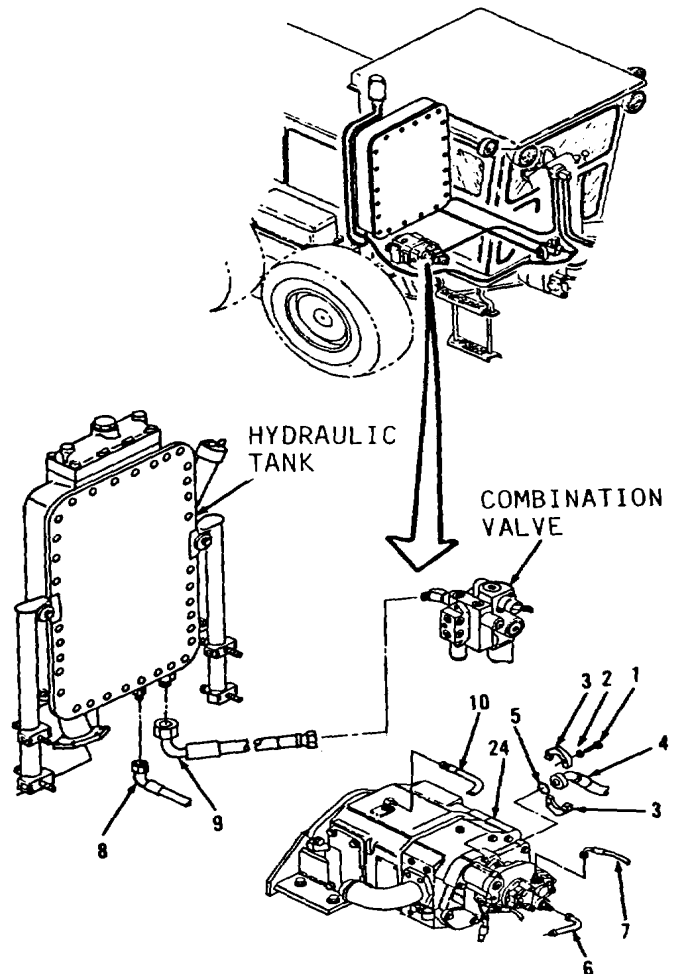

Figure 10-6.
1. Remove four bolts (1), washers (2) and two flange halves (3, Figure 10-6).